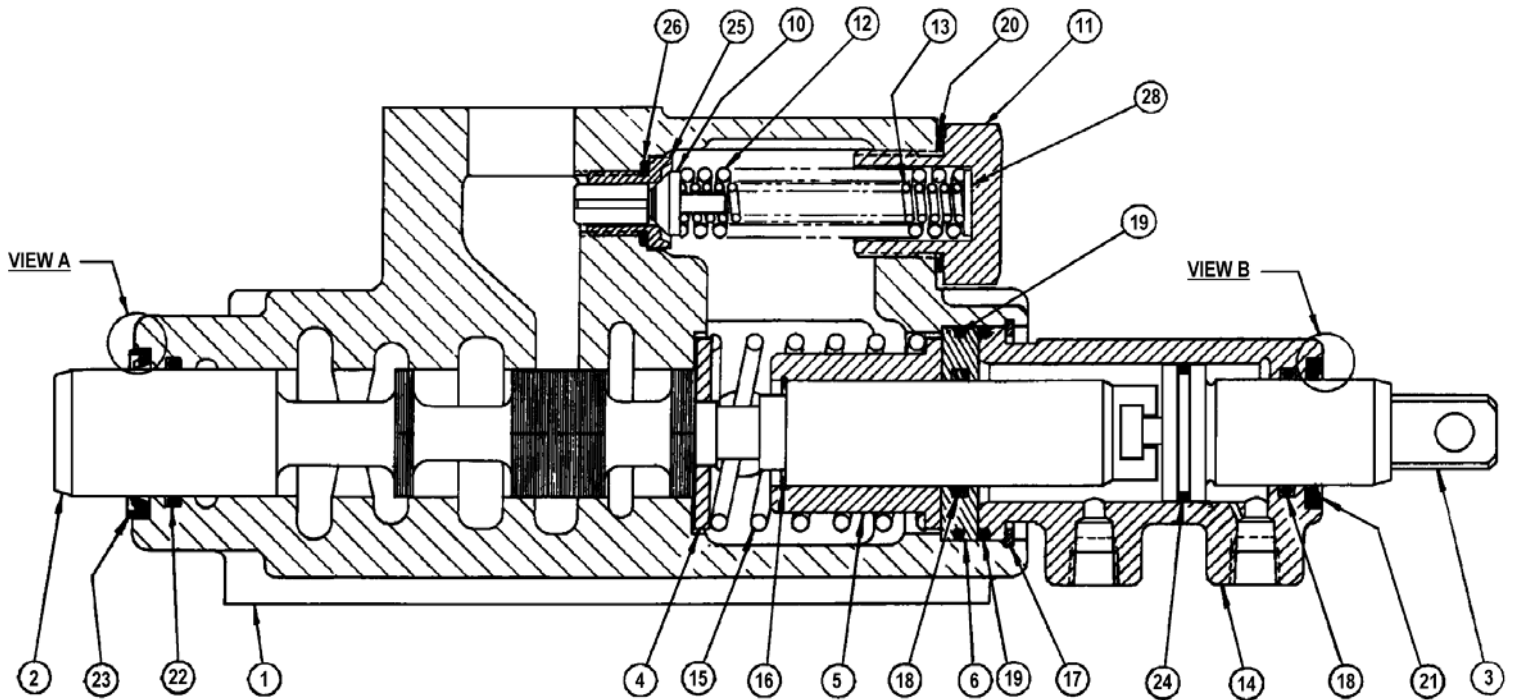

Figure 10-1
Valve-Spool Seals and Servo-Valve Assembly Replacement - Refer to Figure 10-1
2. Locate the retaining ring at the base of the servo-valve body (Key 17, Figure 10-1). Remove the retaining ring and pull the servo-valve body out of the main-valve housing.
1. The relief valve and seat are located under the large hexagonal plug near the control-handle end of the hammer-valve assembly. Remove the plug, valve springs, shims, and relief-valve plunger. (Refer to Figure 10-1, Keys 10-13, 20, 25, 26 & 28).